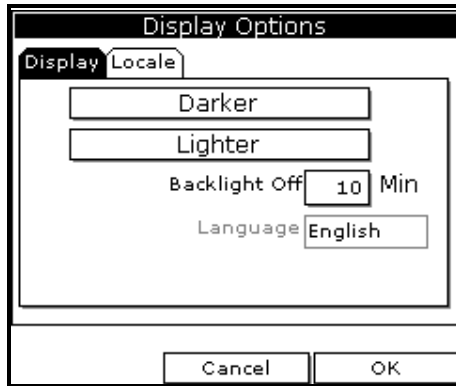

Figure 18: Display Options Window
3. Use the arrow key to scroll to **Contrast** and press [ENTER]. A screen similar to Figure 18 appears.